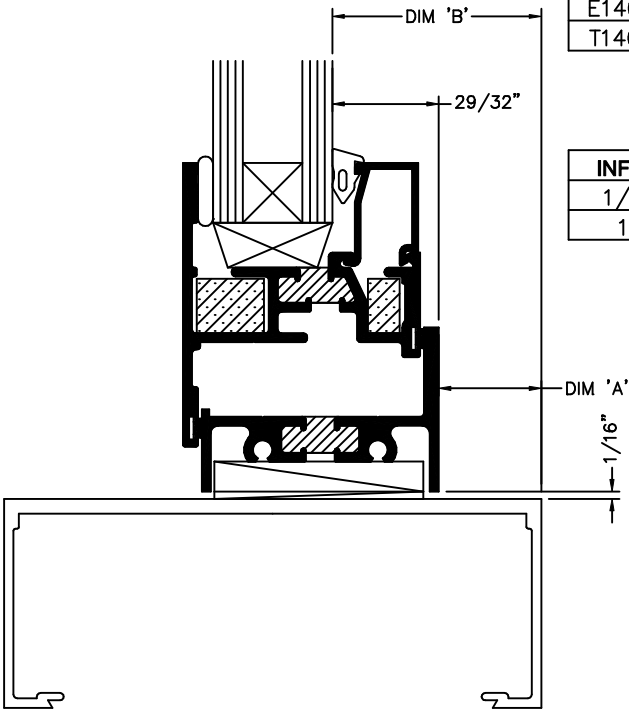

FIGURE 2
- A. FOR FLUSH GLAZE FRAMING, REFER TO TABLE 1 AND FIGURE 2 & 3, FOR LOCATION.
- B. FOR OTHER TYPES OF FRAMING, SEE TABLE 2 AND FIGURES 2 & 3 FOR LOCATION.
2. INSTALL TWO (2) 3/8" x 1" x 4" SETTING BLOCKS AT BOTTOM HINGE SIDE CORNER. LOCATE AS INDICATED IN FIGURES 2 & 3.
2. INSTALL TWO (2) 3/8" x 1" SETTING BLOCKS AT BOTTOM HINGE SIDE CORNER. LOCATE AS INDICATED IN FIGURES 2 & 3.